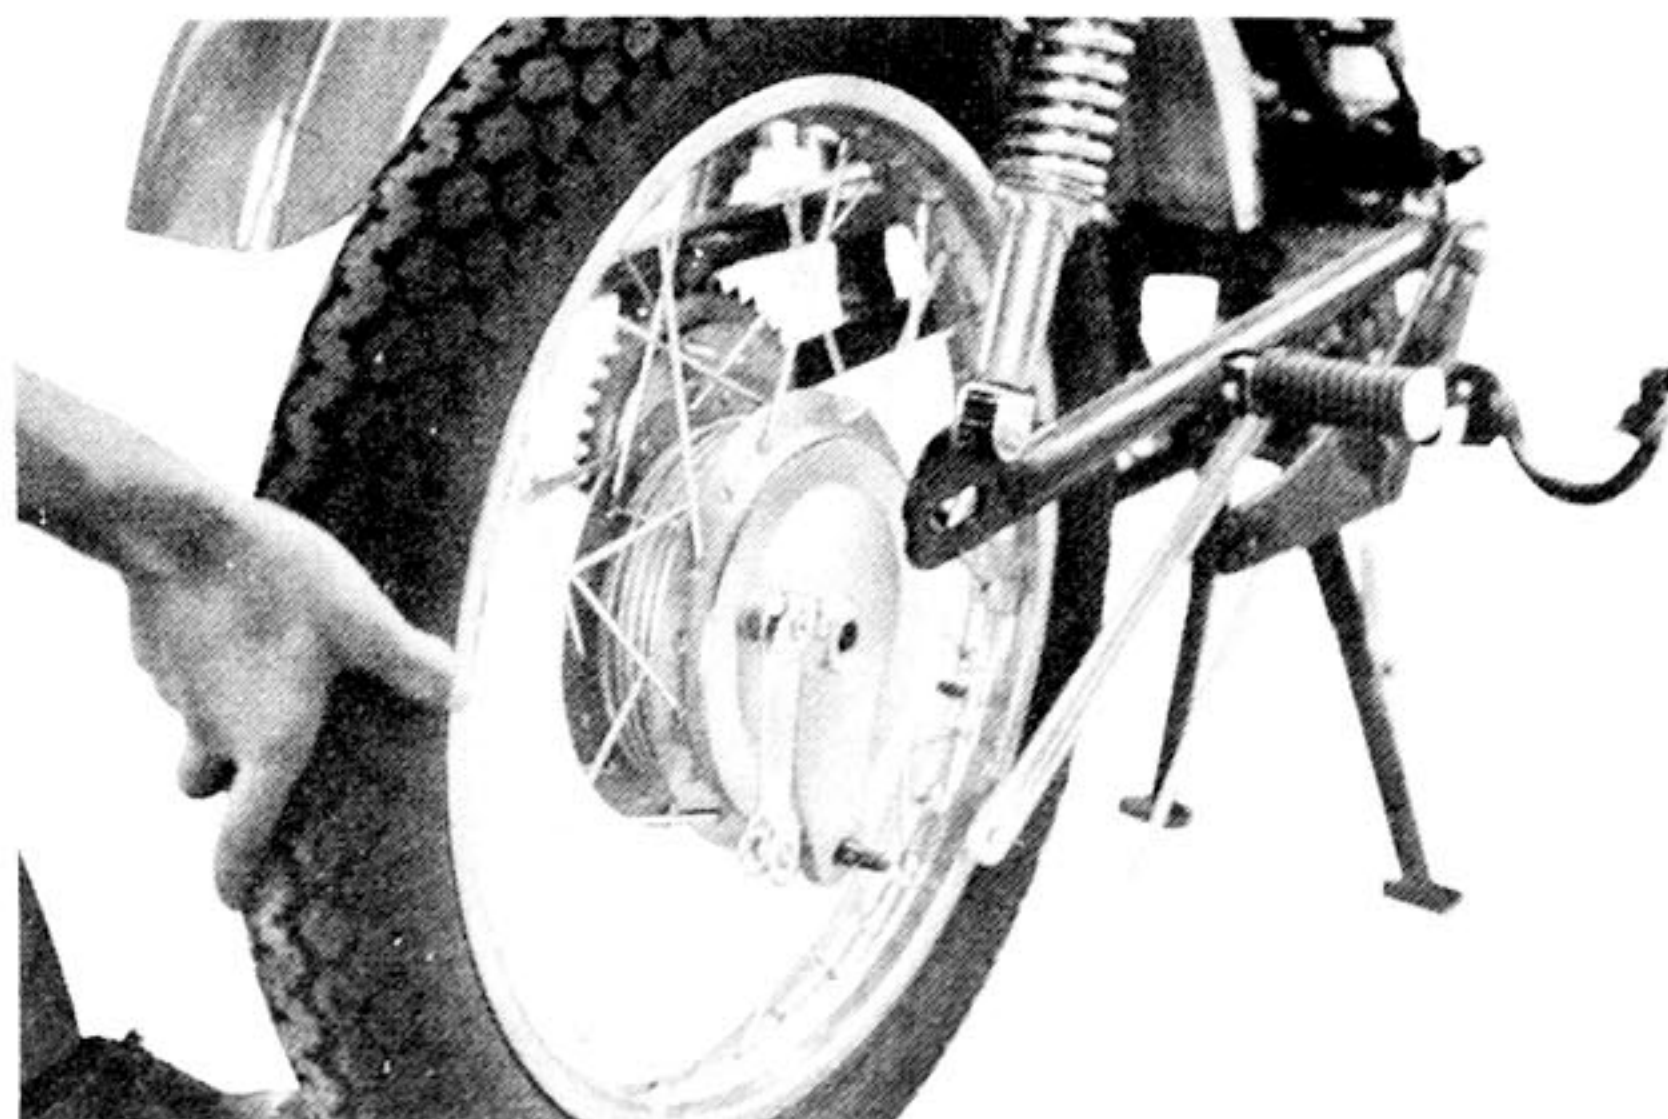

Fig. 5-2-8
(4) Remove the rear wheel ass'y (Fig. 5-2-8)